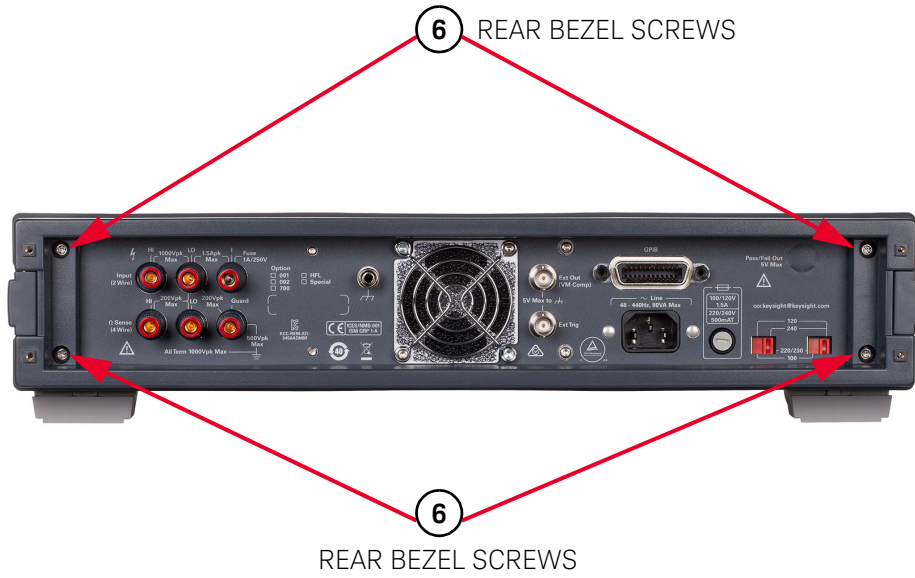

Figure 3-4 Remove/Install rear bezel
- 8** Refer to Figure 3-4. Turn the instrument so its rear faces you.
- 14 Refer to Figure 3-4. Turn the instrument so its rear faces you.